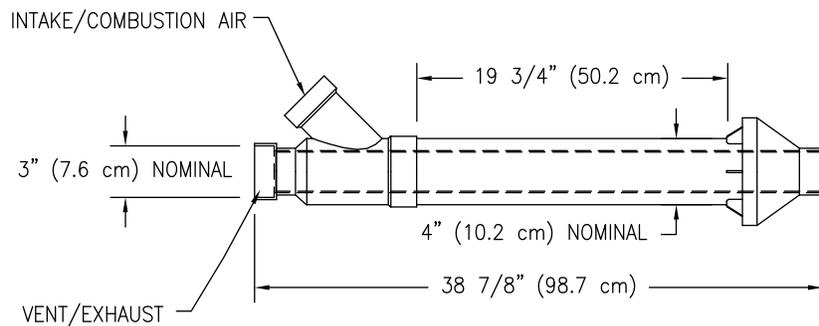

Figure 19. Dimensional Layout of Concentric Vent Kit (239-44069-01 3" Kit shown)
If assembly is too short to meet height requirements, the two pipes supplied in the kit may be replaced by using the same diameter pipe. DO NOT extend the overall dimension by more than 60 inches. See Figure 19.
- Become familiar with coaxial vent kit part no. 239-44069-01, as shown in Figures 19 through 21. For venting 4 inch (10.2 cm) or 2 inch (5.1 cm) diameter pipe, use the appropriate bell reducer to reduce to the 3 inch (7.6 cm) diameter vent size to connect to the 3 inch (7.6 cm) vent terminal connections. If the 2 inch diameter concentric vent kit is preferred with 2 inch diameter pipe, then order concentric vent kit part no. 239-44069-02 from your supplier.